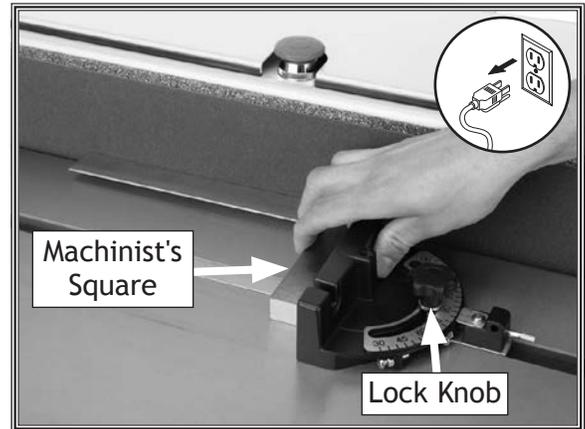

Figure 21. Squaring miter gauge to belt.
2. Use a machinist's square with one edge against face of miter gauge and the other against belt face, as shown in **Figure 21**.
3. Loosen lock knob on miter gauge (see **Figure 21**) to adjust it flush with edge of the square.